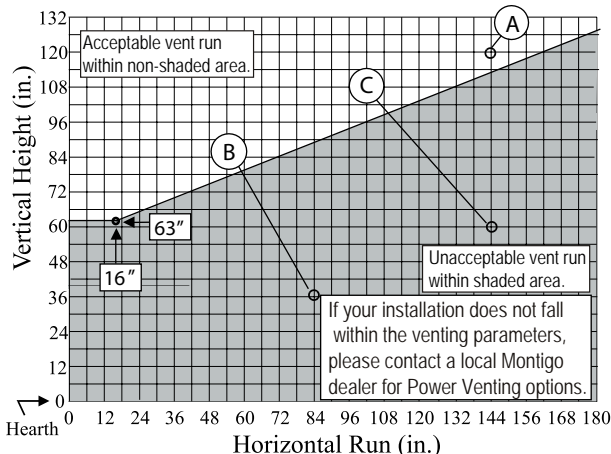

Figure 12. P38DF* LP Top Vent Venting Graph for wall mounted terminations.
- Once the proposed venting layout has been determined refer to Figure 12, 12a, 15, or 15a to ensure the layout is acceptable.
- Venting runs must fall within the limits set by the venting graph, see Figure 12 or 12a.
Measure the vertical height from the fireplace hearth to the centre of the termination and the horizontal run from the fireplace flue collar to the wall flange of the termination. Plot on the Venting Graph Figure 12 or 12a with an 'X'.
Figure 13. Top Vented, wall mounted installation with one 90° bend. The vent run must comply with Venting Graph for Top vent, wall mounted terminations, Figure 12 or 12a.